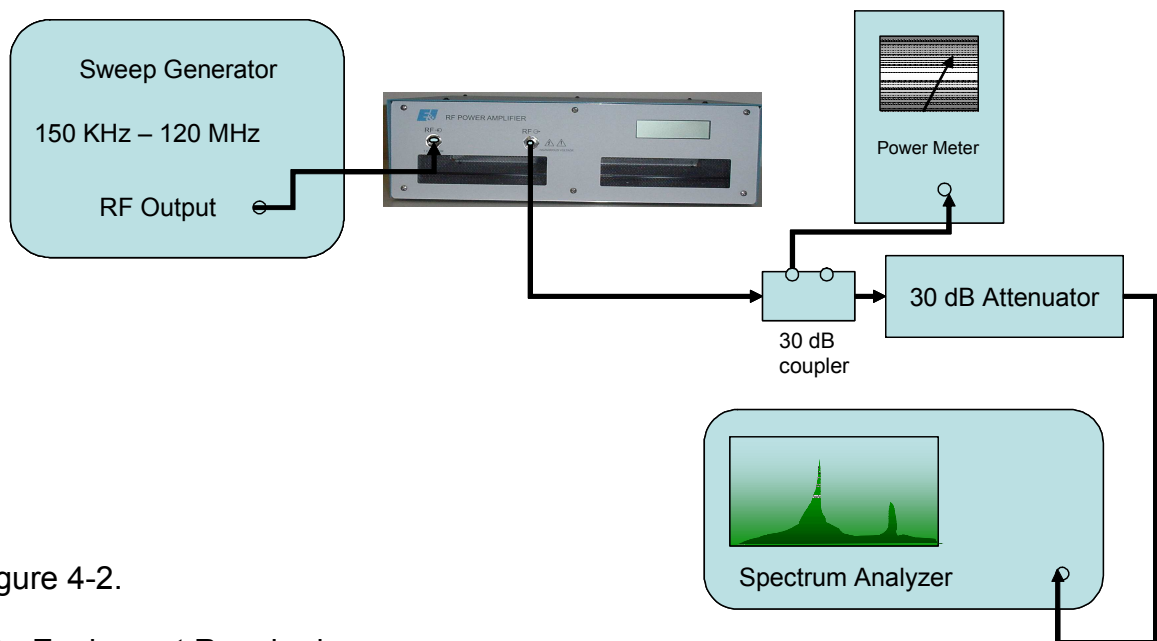

Figure 4-2.
2.) Connect the Equipment as shown in Figure 4-2, then proceed as follows: